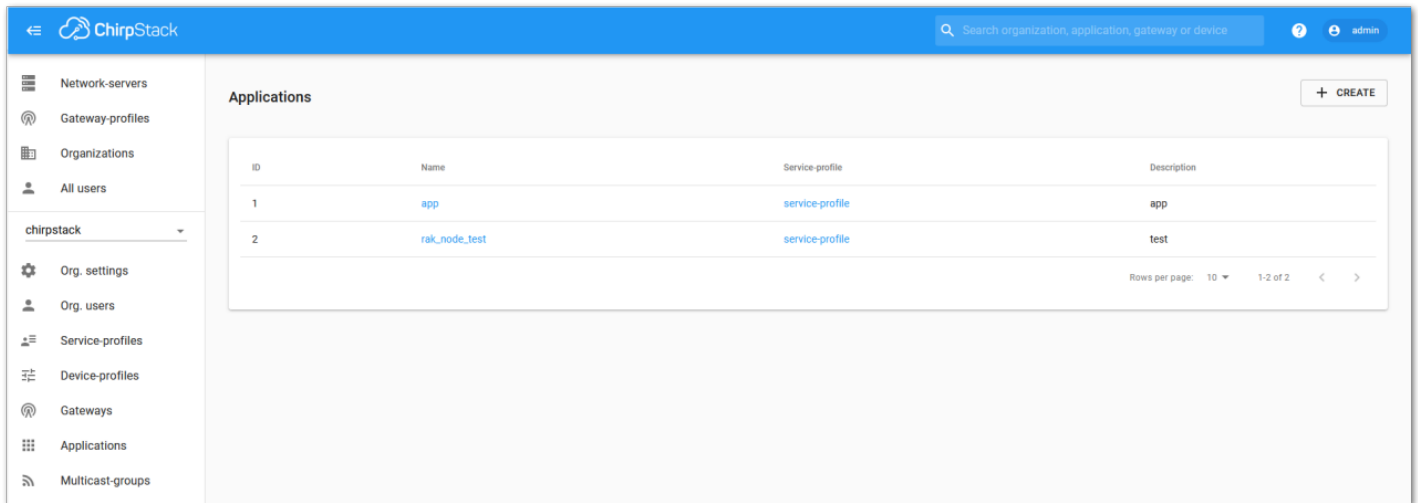
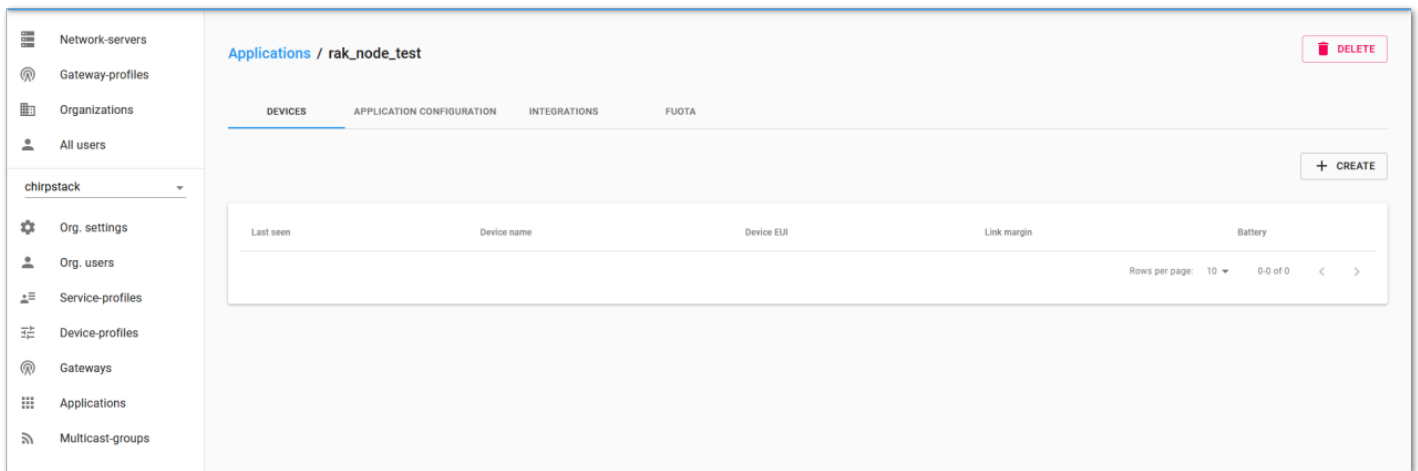

Figure 209: List of Applications Created
Figure 210: Device Tab of an Application
1. Choose the **Application** created in the previous step, then select the **DEVICES** tab, as shown in **Figure 209** and **Figure 210**.